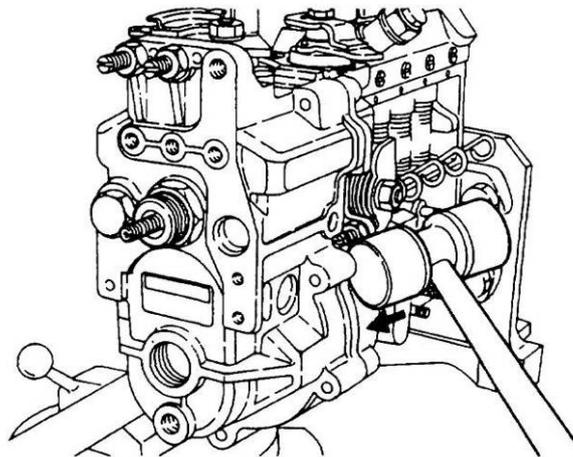

Figure 89 Removal of the Governor Cover
- l.** Remove the seven bolts securing the cover to the governor housing and remove the cover by tapping the cover lightly with a soft faced hammer (Figure 89). Discard the gasket.